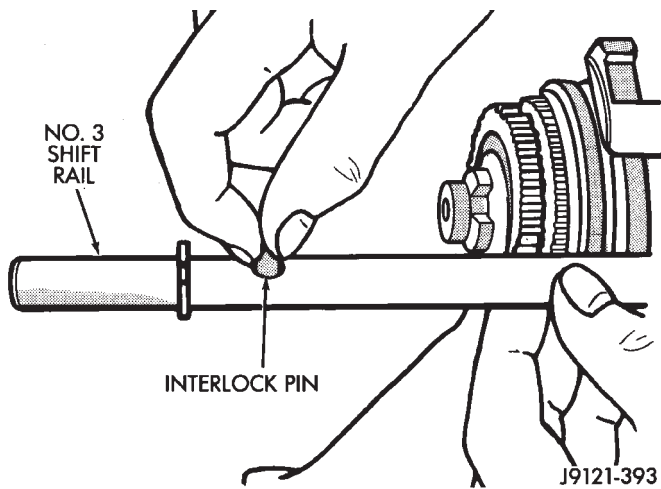

Fig. 75 Installing No. 3 Shift Rail Interlock Pin
(10) Install interlock pin in No. 3 shift rail (Fig. 75).